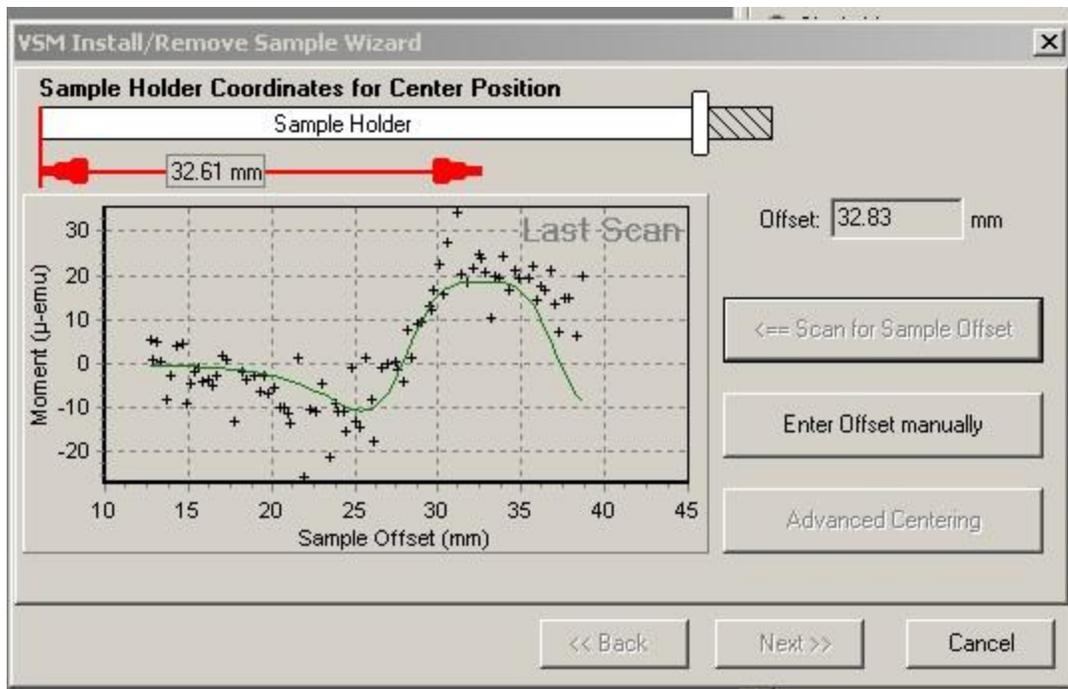

Figure 8. Sample centering result for the brass holder.
6) When the scan is complete, you may see something similar to that of Figure 8. The first dialog box will identify the center position. If you were attempting to measure something with a small magnetic moment that did not come up in the centering scan, you could enter the sample position manually. In this case, we see that the maximum background contribution of the holder at 3 T is  $2 \times 10^{-5}$  emu, which is fine.